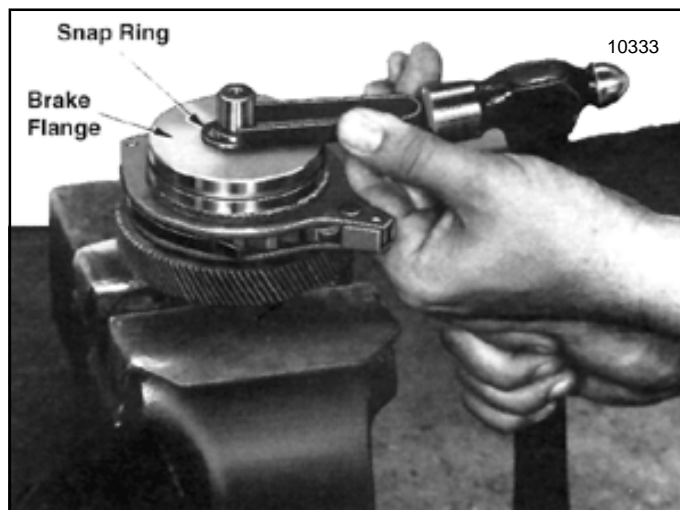

Figure 7-21. Removing Snap Ring from Load Brake Shaft
(1) Place load brake and clutch assembly, flange up, in a vise equipped with brass or copper jaw plates to protect pinion gear teeth. Remove snap ring of load brake shaft (fig. 7-21).